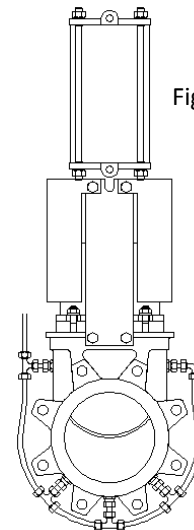

Fig. 7
**-Flushing Holes in Body (Fig. 7):** Several holes can be drilled in the body to flush air, steam or other fluids out in order to clean the valve seat before sealing.